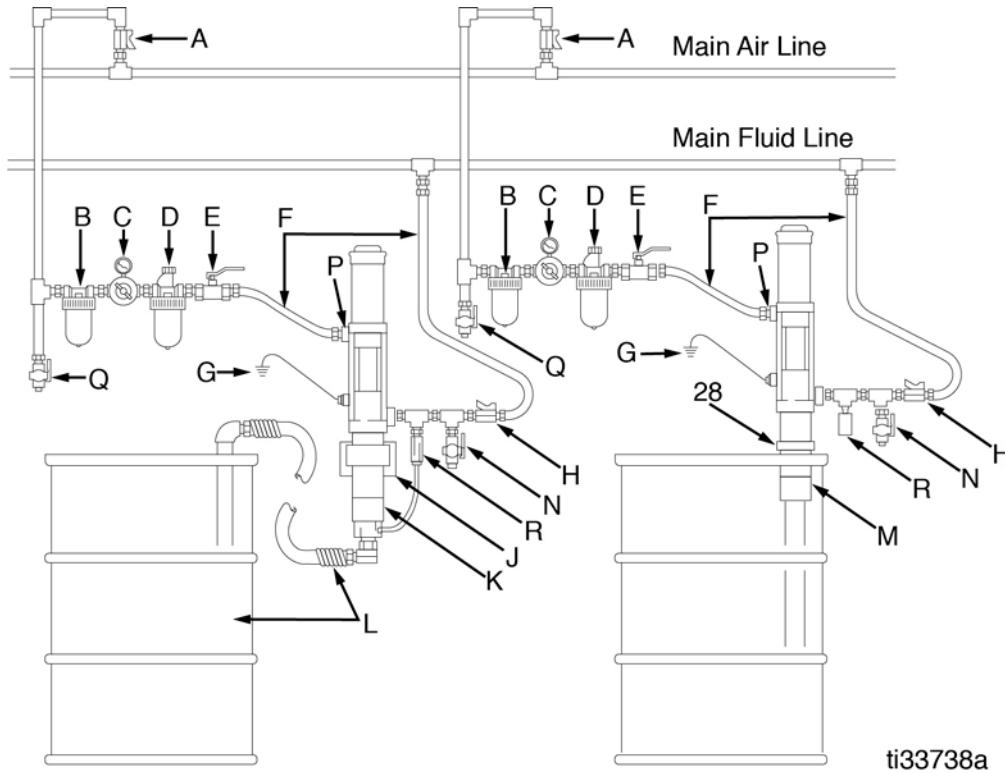

FIG. 1
Install the accessories in order shown in the typical installation in FIG. 1. The installation shown in FIG. 1 is only a guide for selecting and installing a pump; it is not an actual system design. Contact your Graco distributor for assistance in designing a system to suit your needs.
Refer to FIG. 1, page 4.
- **Air and Fluid Hose Kits (F):** An 18-inch kit for wall mounted pumps and a 6-foot kit for drum-mounted pumps are available. Use a minimum 1/4-inch ID air supply hose between the pump air inlet and the air accessories. To order a kit with a 1/4-inch air hose, 1/4-inch swivel elbow, 3/4-inch fluid hose, and 3/4-inch swivel elbow, order one of the following kits:
- **Wall Bracket (J):** The wall bracket is used for mounting the Universal pump. The wall bracket is sized to fit any Graco pump designed to use a 2-inch bung adapter. Order Part No. 203987.
- **Air Filter (B):** The air filter removes harmful dirt and moisture from the compressed air supply. A 300 psi (2.1 MPa, 21 bar), 1/4-inch npt(f) air filter (20 micron) is available from Graco. Order Part No. 110146.
- **Air and Fluid Shutoff Valves (A and H):** Install air shutoff valve (A) and fluid shutoff valve (H) as shown in FIG. 1, page 4, to isolate the pump while you are servicing it.
- **Quick-Disconnect Coupler and Nipple:** The quick-disconnect coupler and nipple (not shown) are used to quickly disconnect the air supply. Attach the coupler (Part No. 208536) to the pump air inlet hose, and install the nipple (Part No. 169970) to the pump air inlet (P).